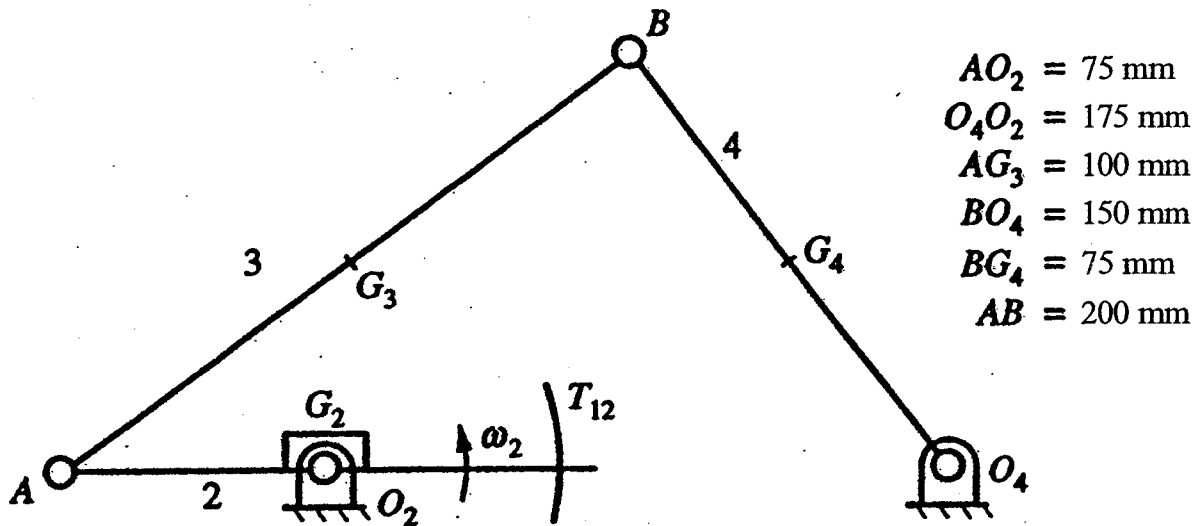

Figure 4
4. Find the external torque  $T_{12}$  that must be applied to link 2 of the mechanism shown in Figure 4 to drive it at  $\omega_2 = 1,800 \text{ rad/s}$  anticlockwise and  $\alpha_2 = 0 \text{ rad/s}^2$ . Link 2 is in a horizontal position, and it is balanced so that its centre of mass  $G_2$  is at the pivot  $O_2$ . The mechanism moves in the horizontal plane, and friction may be neglected. You may assume that Figure 4 is a scale diagram of the mechanism. Compute the quantities graphically, and properly label all terms.